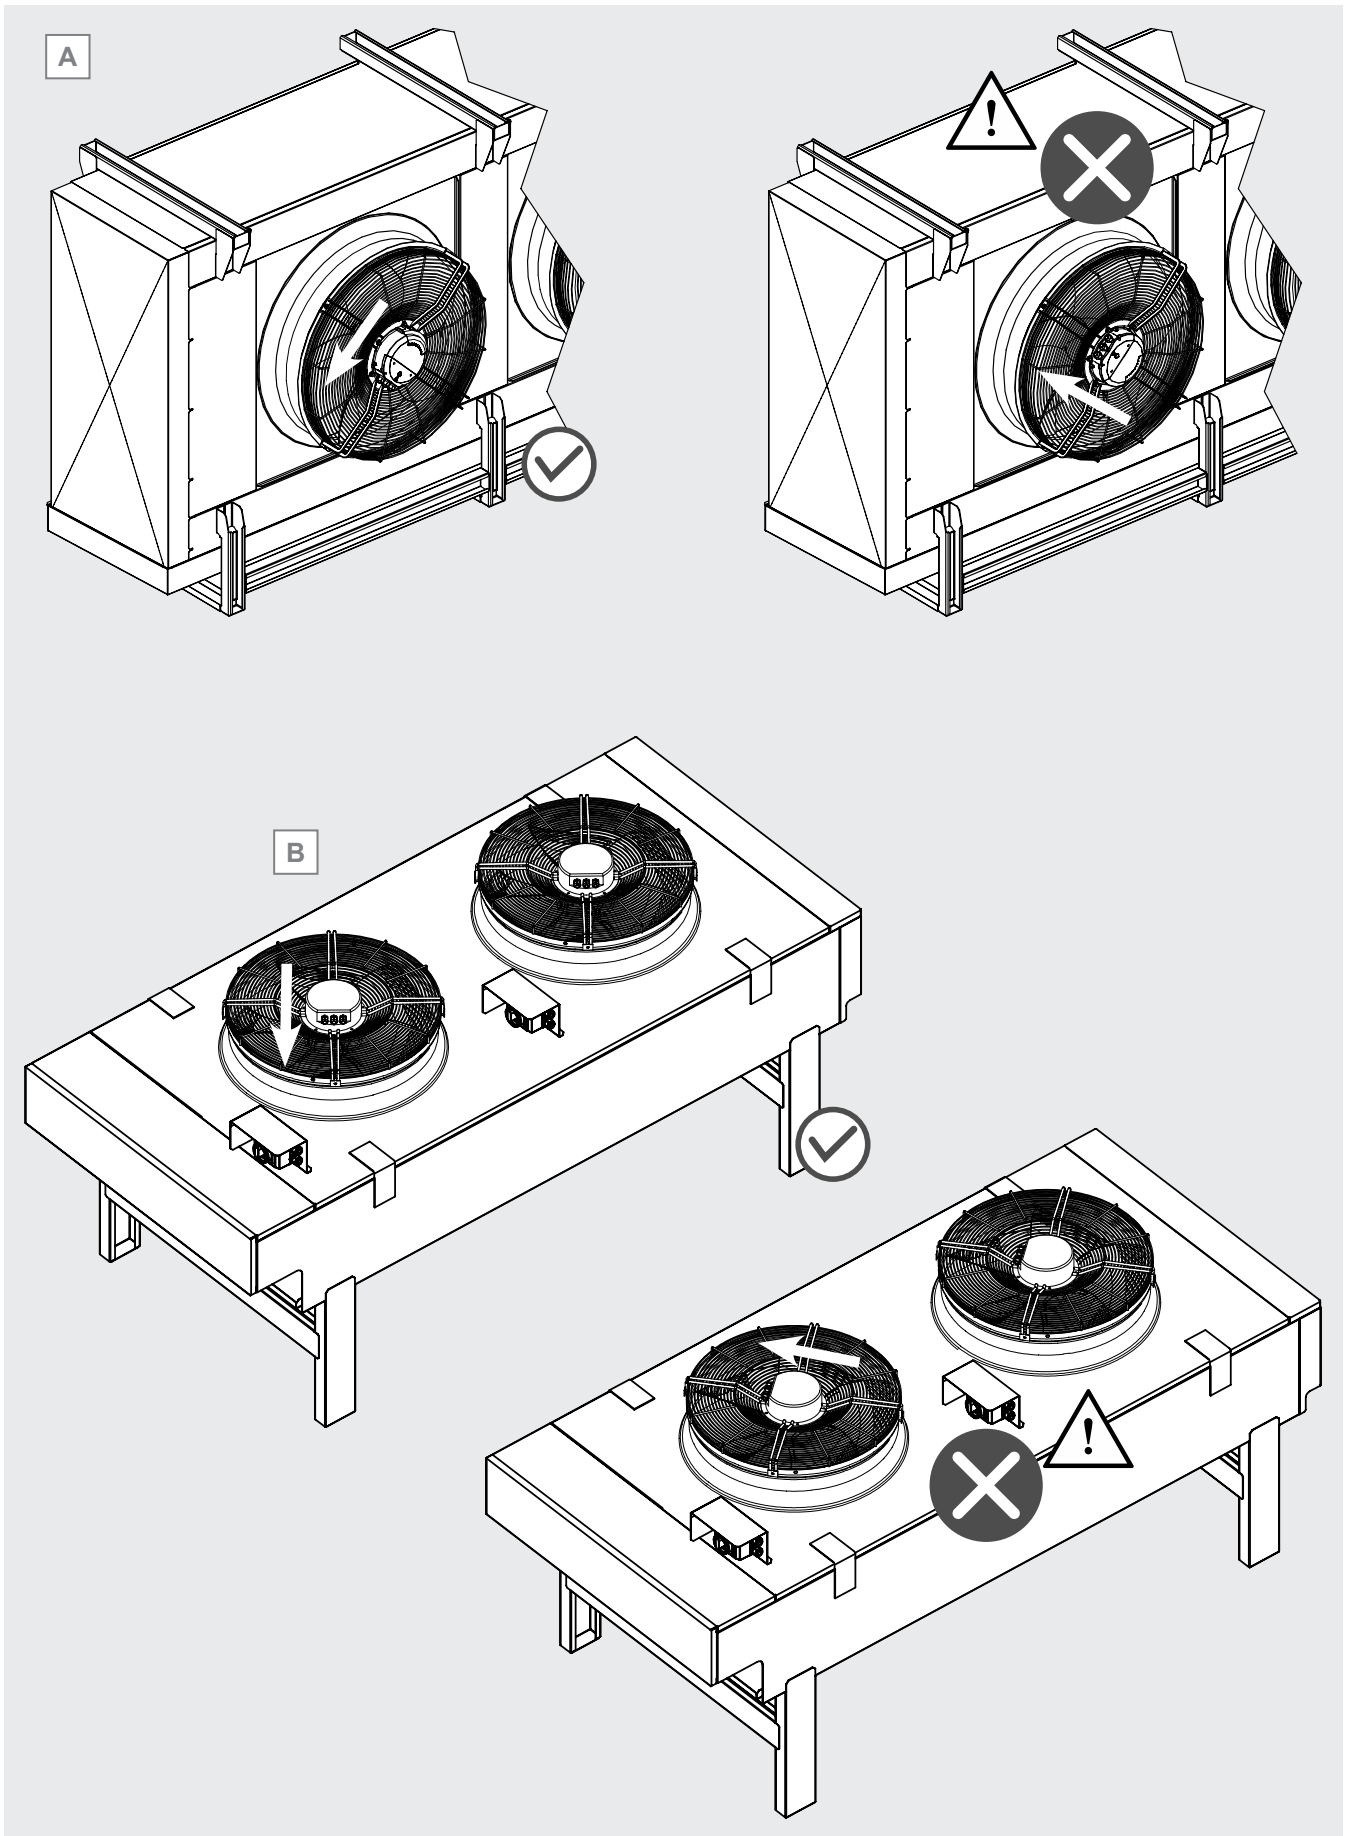

Figure 4
2.12 Pay attention to the orientation of the motorfan. See Figure 4.
2.12.1 In models with horizontal air flow, the fan must be oriented in such a way that the cable glands point downwards. See Figure 4 A.
2.12.2 On models with vertical air flow, orient the fan so that the cable glands are directed towards the motor switch (if present). See Figure 4 B. Take the length of any cables into consideration.